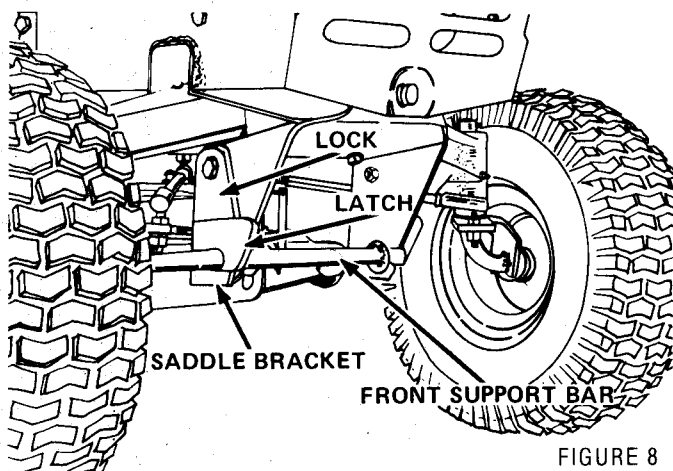

FIGURE 8
7. Position front support bar in the tractor saddle brackets and secure with the locks and latches as shown in Figure 8.